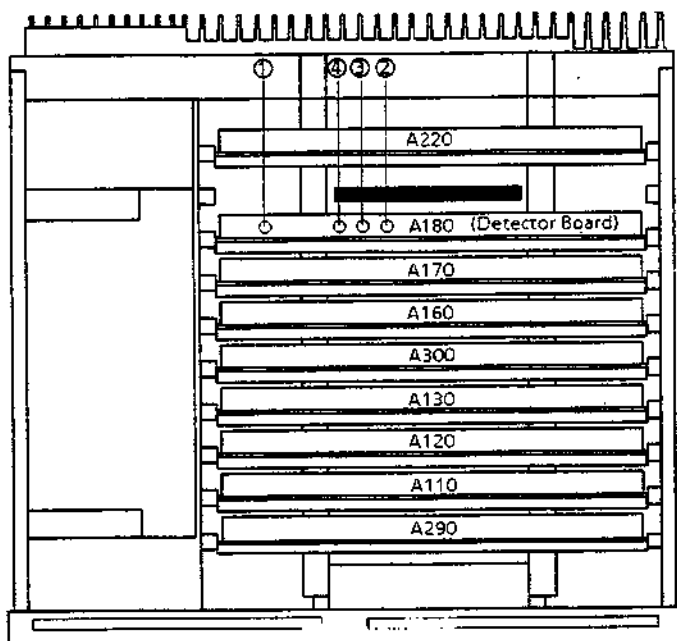

Fig. 4-7 Position of the adjustment points for the module DETECTOR BOARD
- ▶ Turn the potentiometer "METER FULL SCALE" R654 ④ (fig. 4-7) such that meter indication is identical with the 50-dB marker.